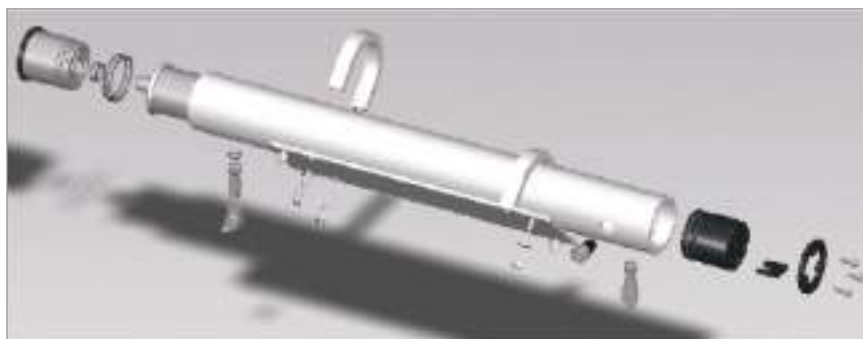

Figure 8c: R.O. Membrane illustration of brine seals
- r) A new Sea Recovery R.O. membrane element comes complete with a "U" cup Brine Seal #8 at one end of the Element. This Brine Seal must be positioned at the INLET end of the Pressure Vessel. Refer to Figure 8c-8d, pg 8-13.